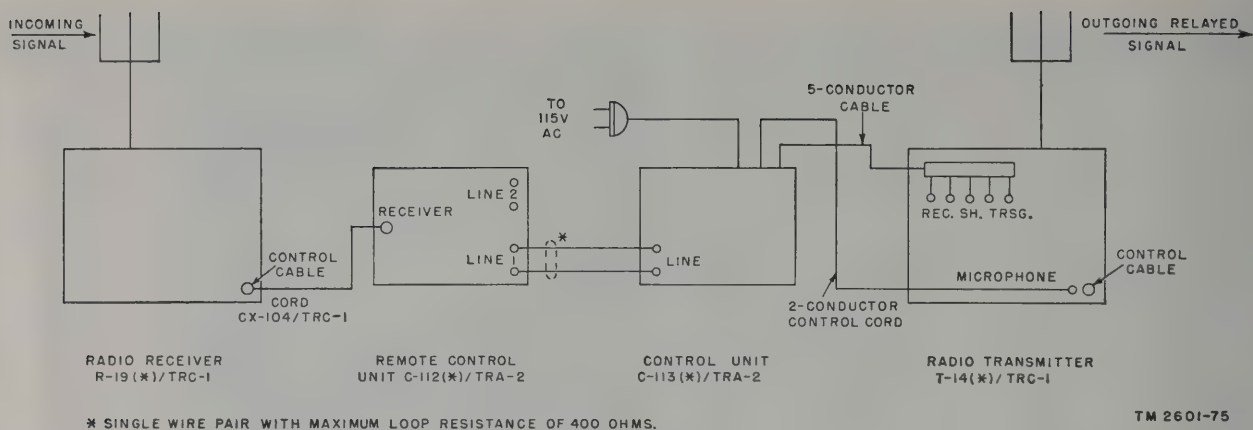
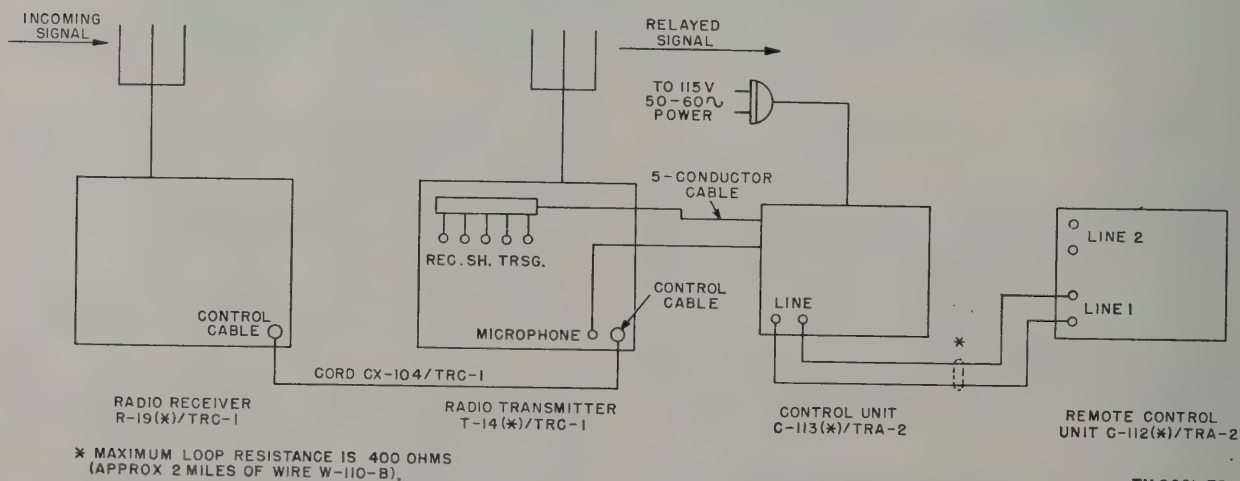
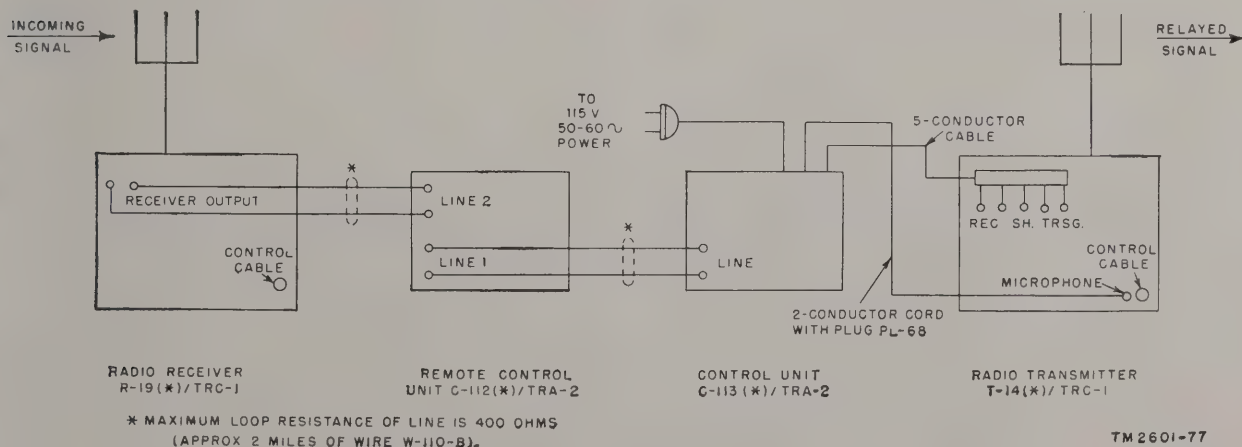

Figure 107. Automatic relay operation, cording diagram.
Figure 108. Two-wire radio remote control, cording diagram.
Figure 109. Four-wire radio remote control, cording diagram.
a. Connect the equipment as shown in figure 107. Separate the transmitting and receiving antennas by a distance sufficient to prevent reception of spurious transmitter harmonics (sec. V, ch. 4). This distance will depend upon the choice of crystal frequencies. Select the crystals according to the interference charts in paragraph 134.
- (1) LINE switch to ON position.
- (2) CABLE COMPENSATOR to position 8.
- (3) CARRIER CONTROL switch to position 2.
- a. Connect as shown in figure 108.
- (1) CABLE COMPENSATOR to maximum.
- (2) CARRIER CONTROL switch to position 1.
- a. Connect the equipments as shown in figure 109.
a. GENERAL. Set ON-OFF switch on control unit to ON position; pilot lamp should light. Handset TS-15-(*) or H-23(*)/U is plugged into the MIC and PHONES jacks at the lower right-hand corner of Control Unit C-113(*)/TRA-2. Remote Control Unit C-112(*)/TRA-2 has facilities for plugging in three sets of headsets and microphones. Either Chest Unit H-19(*)/U or Microphone T-45, or both may be used. Normally, Loudspeaker LS-11 is plugged into the LOUDSPEAKER jack. Headsets may be used for two-wire radio remote control (fig. 108) and four-wire radio remote control (fig. 109). The loudspeaker is not generally used for automatic relay operation (fig.
107). Plugging in a headset automatically disconnects the loudspeaker. Check position of LINE SWITCH for proper position to correspond to the particular method of operation. Rotate counterclockwise for installations corresponding to figures 107 and 108 (two-wire service) and clockwise for installations corresponding to figure 109 (four-wire service).
- (1) *Radio Transmission.* Operate switch on Handset TS-15-(*) or H-23(*)/U and hold while talking. The voice will modulate Radio Transmitter T-14(*)/TRC-1 and will also be transmitted by field wire to Remote Control Unit C-112(*)/TRA-2.
- (2) *Intercommunication* (figs. 107 and 108). Operate INTERCOM. switch in the direction of the arrow on the panel and hold to prevent modulation of the transmitter. Operate thumb switch on handset and hold only while talking. Release thumb switch when listening. Intercommunication feature is not provided for installations corresponding to figure 109 (four-wire service). In an emergency, however, where intercommunication is essential without modulating the transmitter, rotate LINE SWITCH counterclockwise to the TWO WIRE position. Operate as outlined above. Restore LINE SWITCH to FOUR WIRE position when normal operation is resumed.
- (1) *Radio Transmission.* Operate push-button switch on Chest Unit H-19(*)/U or cord switch of Microphone T-45 and hold while talking. Release switch of either type microphone to reestablish radio reception. Radio signals will not be received either at Control Unit C-113(*)/TRA-2 or at Remote Control Unit C-112(*)/TRA-2 while microphone switches are held operated.
- (2) *Intercommunication* (fig. 107). Operate INTERCOM. switch in the direction of the arrow on the panel and hold
when necessary to increase listening level, but only if it *does not* interfere with operation of radio. This switch need not be used on installations corresponding to figure 108. Privacy of intercommunication feature is under the control of the operator at Control Unit C-113(*)/TRA-2 only. If operator at Remote Control Unit C-112(*)/TRA-2 desires that the communication does not modulate the transmitter, he should request the operator at Control Unit C-113(*)/TRA-2 to operate the INTERCOM. switch.